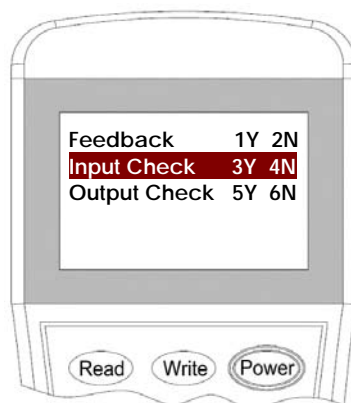

Figure 13
4. Input the **"3"** key for Check mode then press **"Write"** to change the setting (Figure 13).